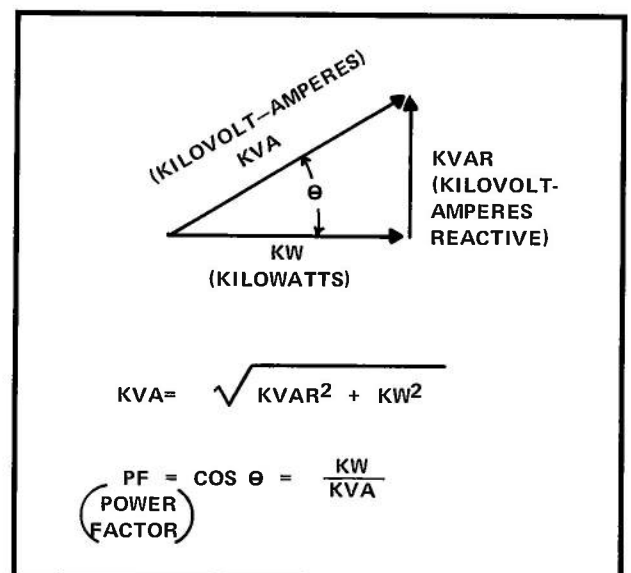

Figure 3. SQ Calculation
The analog outputs of a kilowatt/kilovolt-ampere (kw/kVAR) reactive transducer are converted to digital data by analog input modules. Square roots are required to calculate kVA to further derive the Power Factor (PF) from these inputs. Figure 3 depicts the calculations of kVA and PF. Figure 4 is the ladder diagram for the SQ function.